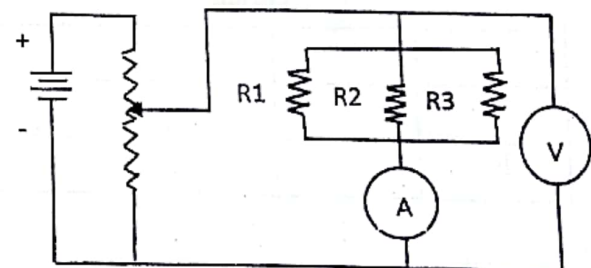

Figure 9.2: Parallel circuit
- Using the same resistors, construct a parallel circuit as shown in figure 9.2.